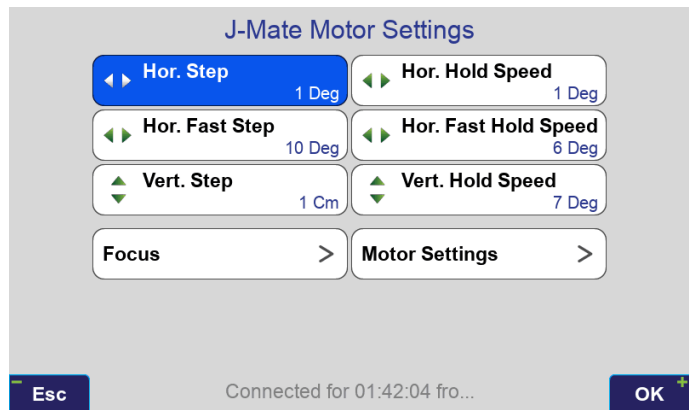

Figure 10
1. Each click of the Left/Right/Up/Down buttons , , ,  moves the J-Mate according to the value that you assign to them via the setup button , Motor in Horizontal and Vertical Motor Step (Figure 10). Two horizontal buttons allow you to assign buttons with different step and speed.